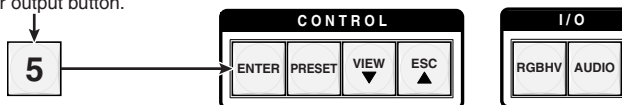

Figure 3-70 — Exit Serial Port Configuration mode
4. Press and release an input or output button to exit the *Serial Port Configuration* mode (figure 3-70).